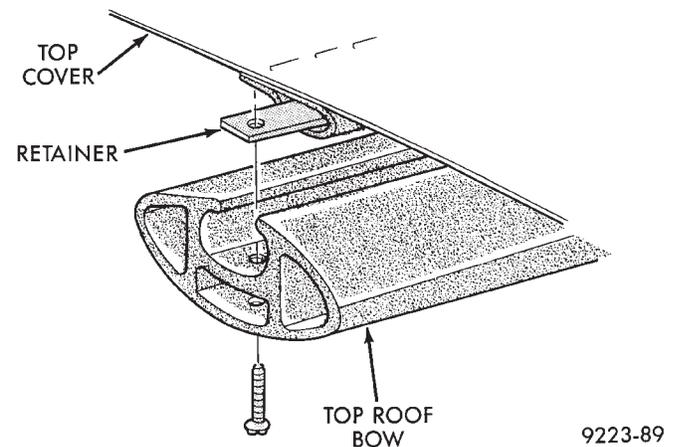

Fig. 10) Third Roof Bow Retainer
- (1) Disengage top header latches.
- (2) Lower convertible top halfway down.
- (3) Remove bolts holding third roof bow to rear roof rails.
- (4) Separate third roof bow from rear roof rails.
- (5) Rotate third roof bow to gain access to staples holding stay pads to tack strip.
- (6) Remove staples holding stay pads to third roof bow.
- (7) Remove screws holding top cover listing retainer to third roof bow (Fig. 10).
- (8) Separate third roof bow from top frame.